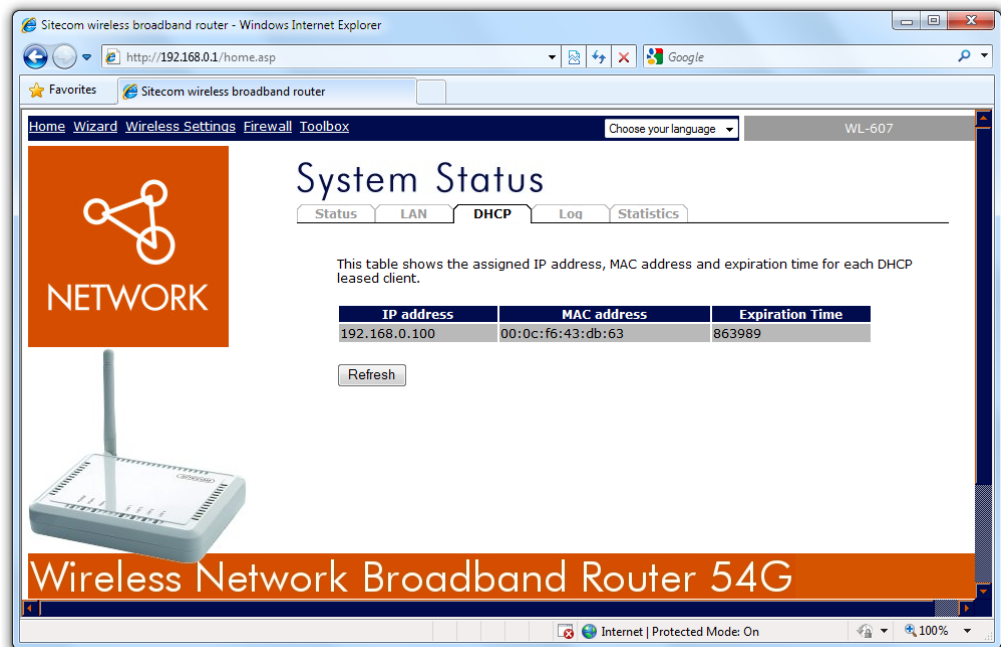

Figure 5-4, Router DHCP Status Page
- 8) Locate the DHCP information/controls page; for the Sitecom 54g this is done by clicking the DHCP tab. The page is shown in figure 5-4.